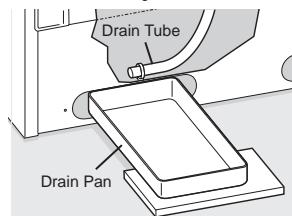

Figure 1
- On upright models with a defrost drain** (Figure 1), remove drain plug on the inside floor of the freezer by pulling straight out. To access external drain tube on models with a base panel, first remove the 2 screws from the base panel. Locate the drain tube near the left center under the freezer. Place a shallow pan under the drain tube. Defrost water will drain out. Check pan occasionally so water does not overflow. A $\frac{1}{2}$ inch garden hose adapter can be used to drain the freezer directly into a floor drain. If your model is not equipped with an adapter, one can be purchased at most hardware stores. Replace the drain plug when defrosting and cleaning are completed. If the drain is left open, warm air may enter freezer.